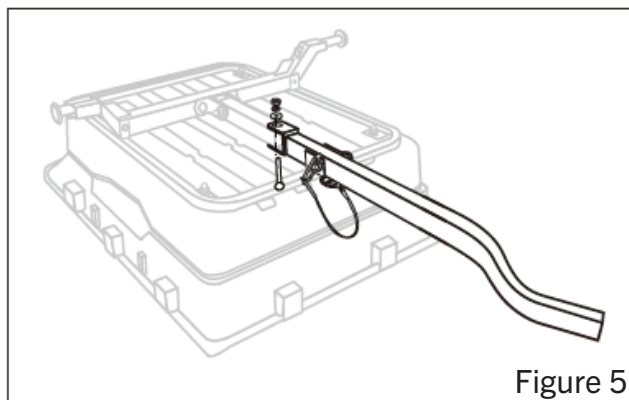

Figure 5
7. Align the holes at the open end of the hinge and pivot bar with the non-clevis end of the trailer tongue. Place a 3 1/2" carriage bolt through the aligned holes and secure with a flat washer, lock washer, and hex nut. FIGURE 5